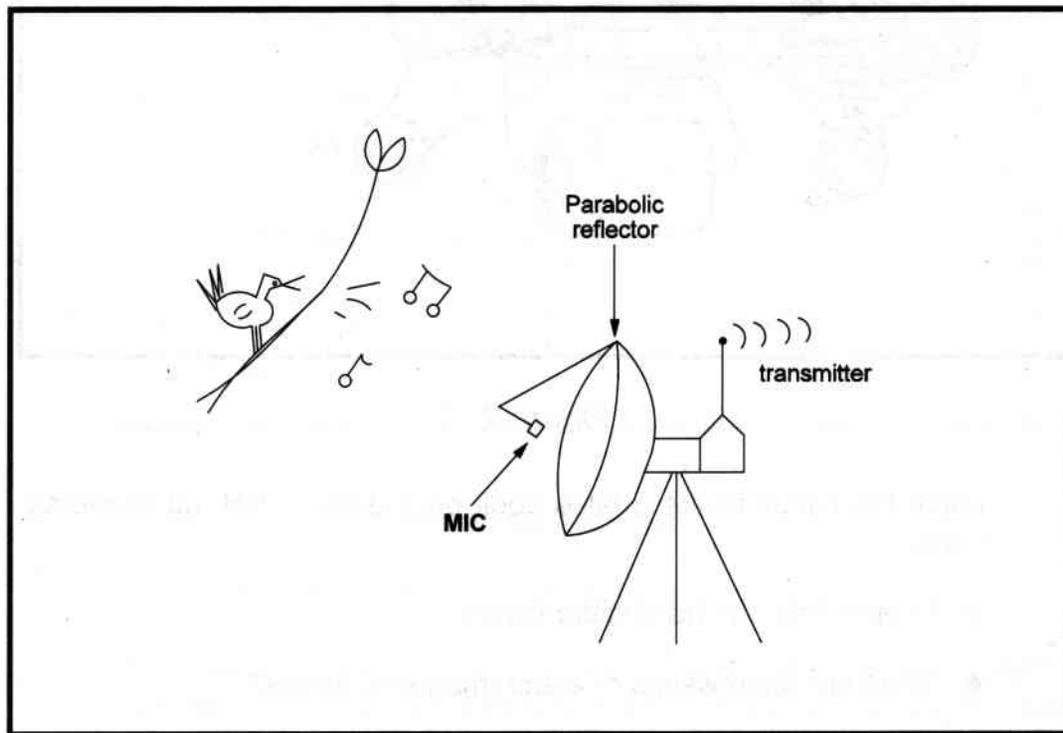

Figure 4
- The mike can be placed in the focus of a parabolic reflector to concentrate sounds. Birds and other animals in the forest or other places can be heard using this system, as suggested in **Figure 4**. An interesting study can be made involving local songbirds.